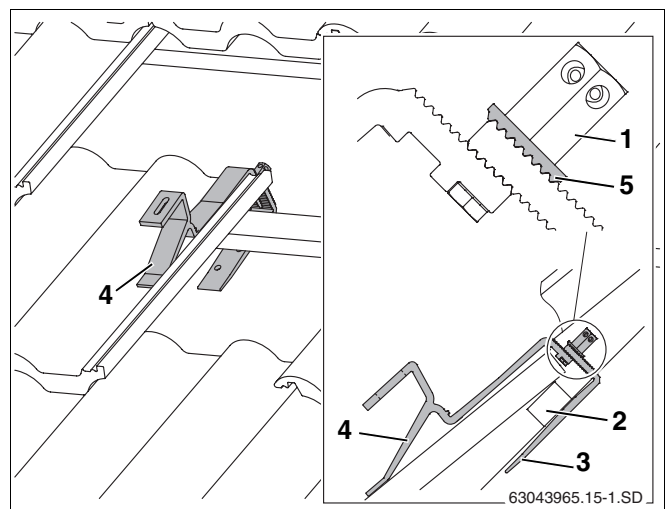

Fig. 13 Roof hook located in place (some tiles have been removed to show the example in more detail)
- ▶ Attach in the roof hook in such a way that the front brace lies in a tile trough (Fig. 13, **Item 4**).
- ▶ Push the lower part of roof hook (Fig. 13, **Item 3**) upwards until it touches the roof batten (Fig. 13, **Item 2**).
- ▶ Tighten the long hexagon nut (Fig. 13, **Item 1**). To do this, insert the size 5 Allen key into one of the holes in the hexagon nut and turn.
The serrated washer (Fig. 13, **Item 5**) must grip the teeth on the lower part of the roof hook.